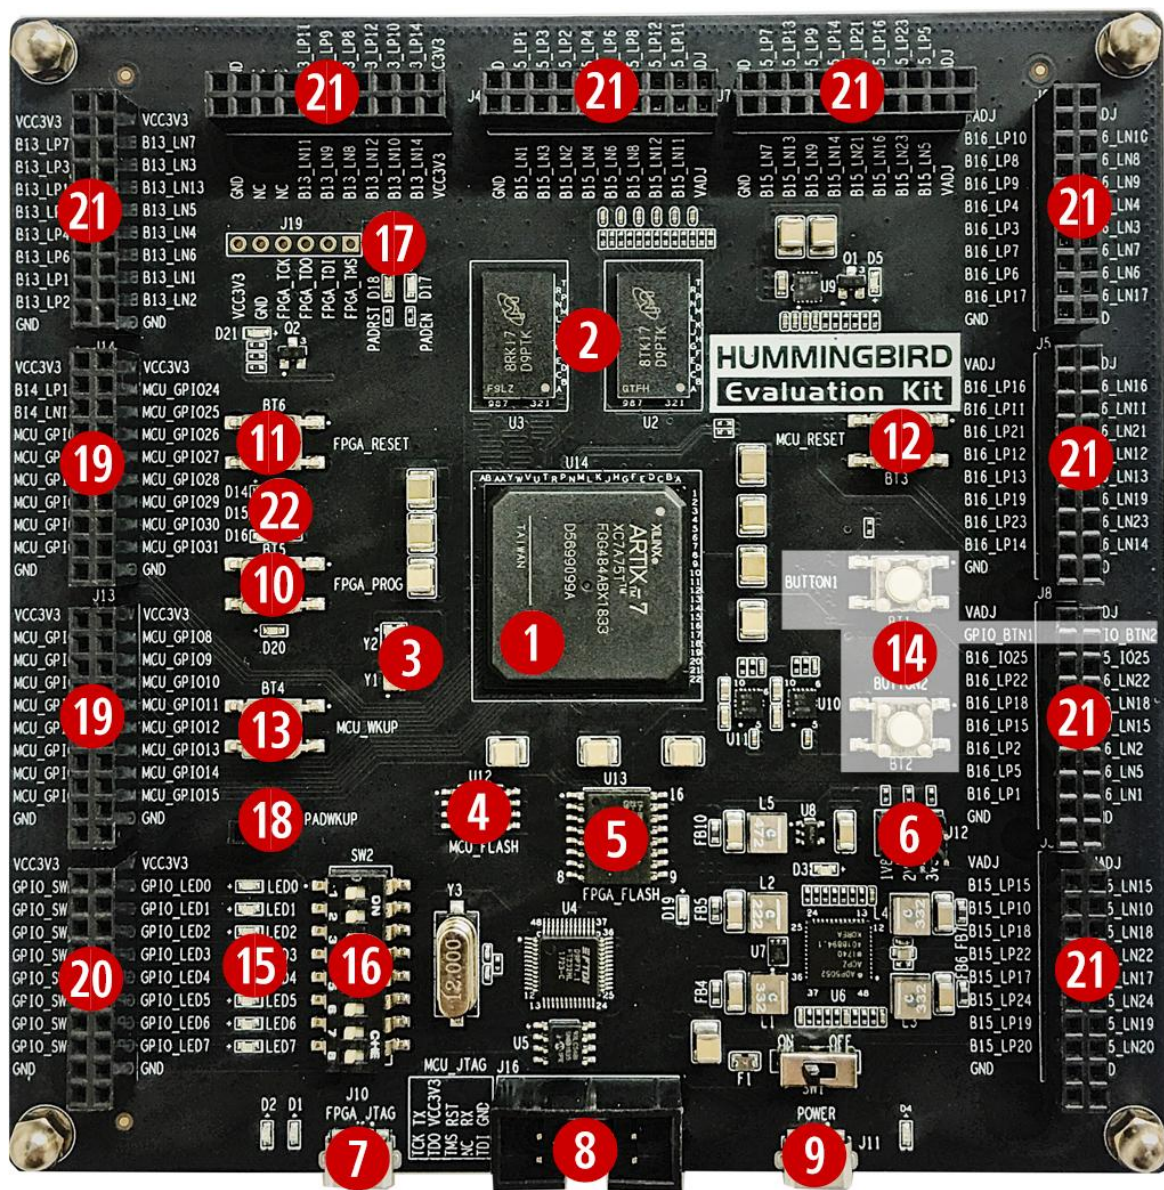
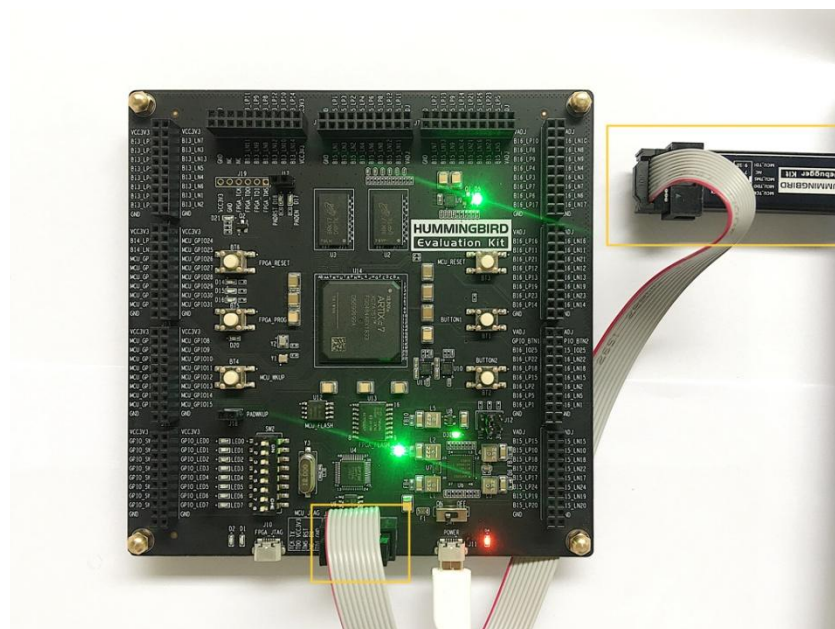

Figure 3-1 Board Hardware Resources
Figure 3-2 Connecting Hummingbird FPGA board and Debugger Kit with PC
Hummingbird Evaluation Kit is an entry-level FPGA board based on Xilinx FPGA, as depicted in Figure 3-1, the hardware resource (marked as with different numbers in above picture) of this board is described as follows.
- There is a separated SPI Nor Flash on the board (as depicted in the Figure 3-1 mark [4]), this SPI Nor Flash will be connected to the SoC’s SPI interface, which support the XiP mode. The RISC-V Core in the FPGA will start to fetch the instructions (with XiP mode) from this Flash after reset.
- The RTC clock is directly from the FPGA board 32.768KHz clock source (as depicted in the Figure 3-1 mark [3]).
- The high-speed clock is from the PLL output (in FPGA project). The original clock source of PLL is from the FPGA board 100MHz clock source (as depicted in the Figure 3-1 mark [3]).
- The SoC have the “System Reset” pin, and the FPGA project mapped the pin to the board MCU_RESET button, as depicted in the Figure 3-1 mark [12].
- The SoC have the “PoR Reset” pin, and the FPGA project mapped the pin to the board FPGA_RESET button, as depicted in the Figure 3-1 mark [11].
- The SoC have 32 GPIO pins, and the FPGA project mapped these GPIO pins to the board exposed connectors (with specific MCU_GPIOx names as depicted in the Figure 3-1 mark [19]).
- The SoC have JTAG pins and UART0 pins (pin-mux to GPIO_16 and GPIO_17 of the SoC), and the FPGA project mapped these pins to the board MCU_JTAG interface socket, as depicted in the Figure 3-1 mark [8]. The “Hummingbird Debugger Kit” can be connected to this socket, as depicted in Figure 3-2, and then be used to debug the RISC-V core (burned inside FPGA).
As described in Section 3.2.1, one of the purposes of “Hummingbird Evaluation Kit” is to be as the regular FPGA board. To achieve this goal, there are independent switches and LED lights, as depicted in the Figure 3-1 mark [14] [15] [16]. User can utilize these on-board resource to control the SoC, for examples as below:
- The switches (as depicted in the Figure 3-1 mark [16]) are independent there, without connecting to any others. User can use the jumper wire to connect it to MCU_GPIOx pins, then to use the switch to control the MCU_GPIO input value.
- The LED lights (as depicted in the Figure 3-1 mark [15]) are independent there, without connecting to any others. User can use the jumper wire to connect it to MCU_GPIOx pins, then to use the MCU_GPIO output value to control the LED lights.
- The buttons (as depicted in the Figure 3-1 mark [14]) are independent there, without connecting to any others. User can use the jumper wire to connect it to MCU_GPIOx pins, then to use the button to control the MCU_GPIO input value.
As depicted in the Figure 3-1 mark [5], the FPGA board has the SPI Flash to store FPGA's Bitstream (MCS format). If the users want to re-program the FPGA with the Bitstream file, Nuclei have provided the completed FPGA project (for each IP product), and then use Xilinx Vivado to generate the Bitstream file (MCS format).
After generating the Bitstream file (MCS format), then we can program it into the FPGA's SPI Flash (as depicted in the Figure 3-1 mark [5]).
// Step 8: If the above step succeeded, user can push FPGA board's "FPGA_PROG" button (as depicted in the Figure 3-1 mark [10]), it will trigger the FPGA to load the Bitstream from the SPI Flash into the FPGA chip and make it start to work.